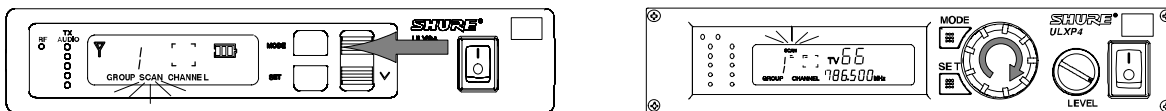

FIGURE 10
- Press the \wedge or \vee buttons (ULXS4) or rotate the control knob (ULXP4) clockwise one quarter turn. The next open Channel number will appear on the display, as shown in Figure 10.